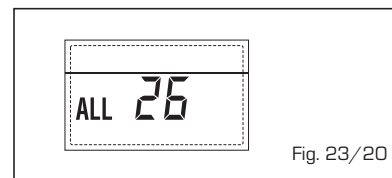

Fig. 23/20
– **ANOMALIA COERENZA APPLICAZIONE SOLARE “ALL 27” (fig. 23/21)**